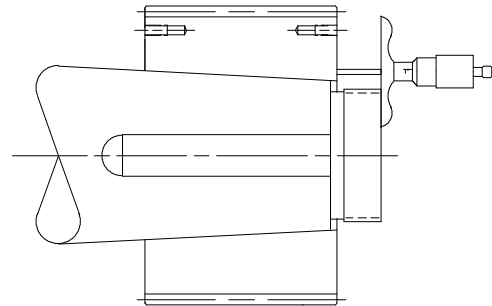

Fig. 3
- 2.2.1 Mount the gear cold by placing it on the shaft and snapping it in position by hand. Measure the cold position of the gear, using a micrometer depth gauge, as on Figure 3. Mark the position of the depth gauge, so that measurements can be taken from the same position after the gear has been mounted.